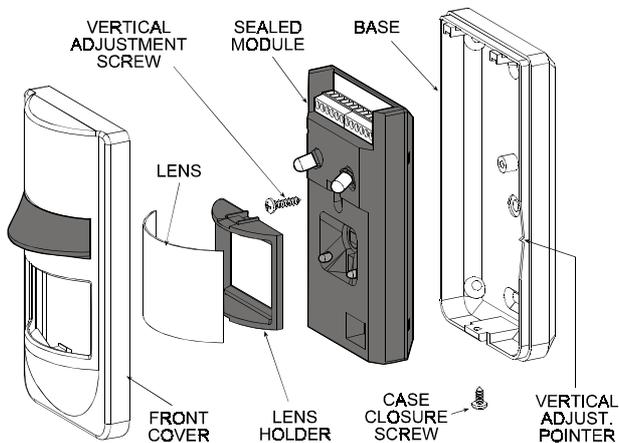

Figure 2. Exploded View of the HUNTER
The electronic circuitry is enclosed in a sealed module, attached to the base with a single screw (see Figure 2).
- Remove the screw located at the bottom and then take the front cover off (see Figure 2).